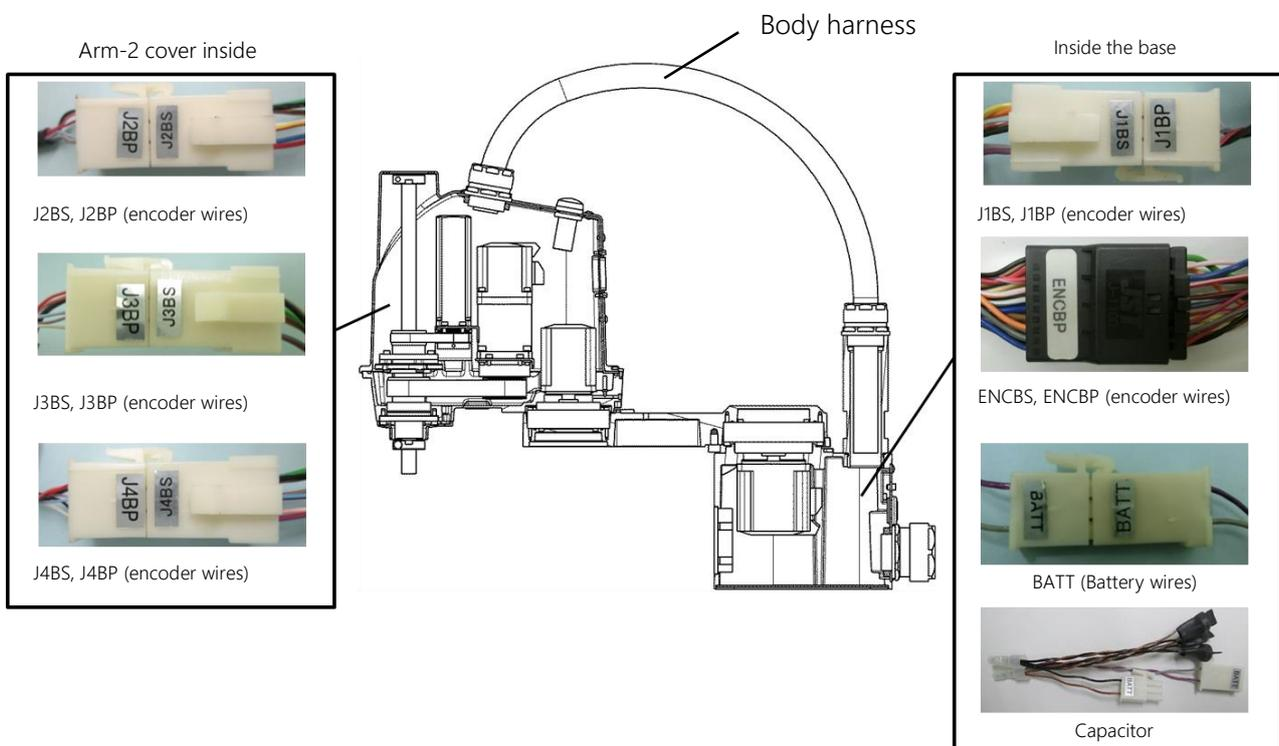

Fig. 8.1 Location where ① Multi-turn Data Reset Operation is Required when the Connectors are Removed
- [2.3] If the cable connectors of encoder cable and battery cable shown in Fig. 8.1 are removed